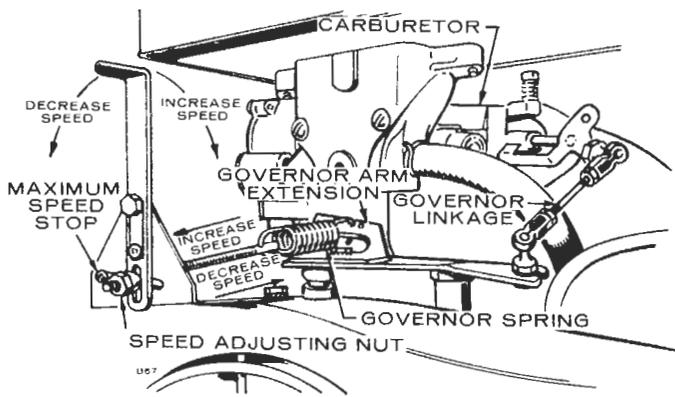

FIGURE 13. VARIABLE SPEED GOVERNOR
The adjustable governors use the same procedure for sensitivity adjustment, but the speed adjustment for the variable speed governor (Figure 13) is different. If engine has variable speed governor as shown, proceed to Variable Speed Governor Adjustment.
The adjustable governors use the same procedure for sensitivity adjustment, but the speed adjustment for the variable speed governor (Figure 13) is different.
3. Adjust tension on governor spring for minimum speed (Figure 13) with lever at slow speed position.